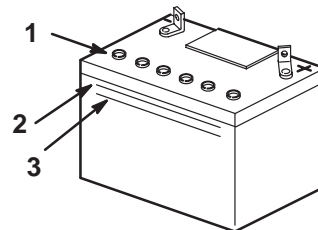

Figure 26
- Look at the side of the battery. The electrolyte must be up to the Upper line (Fig. 26). Do not allow the electrolyte to fall below the Lower line (Fig. 26).
- Remove the vent caps from the battery (Fig. 26).
- Slowly pour distilled water into each battery cell until the electrolyte level is up to the Upper line (Fig. 26) on the battery case.
- Wait five to ten minutes after filling the battery cells. Add distilled water, if necessary, until the electrolyte level is up to the Upper line (Fig. 26) on the battery case.